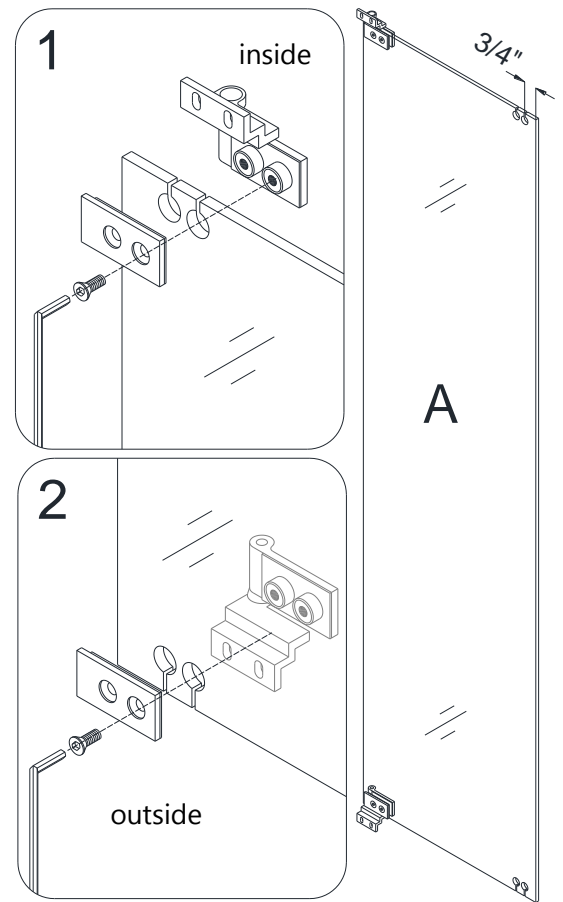
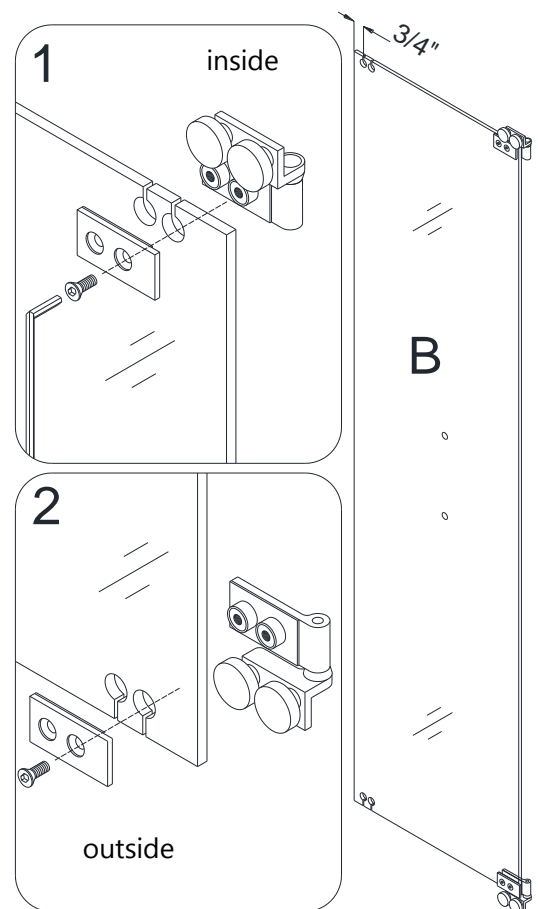
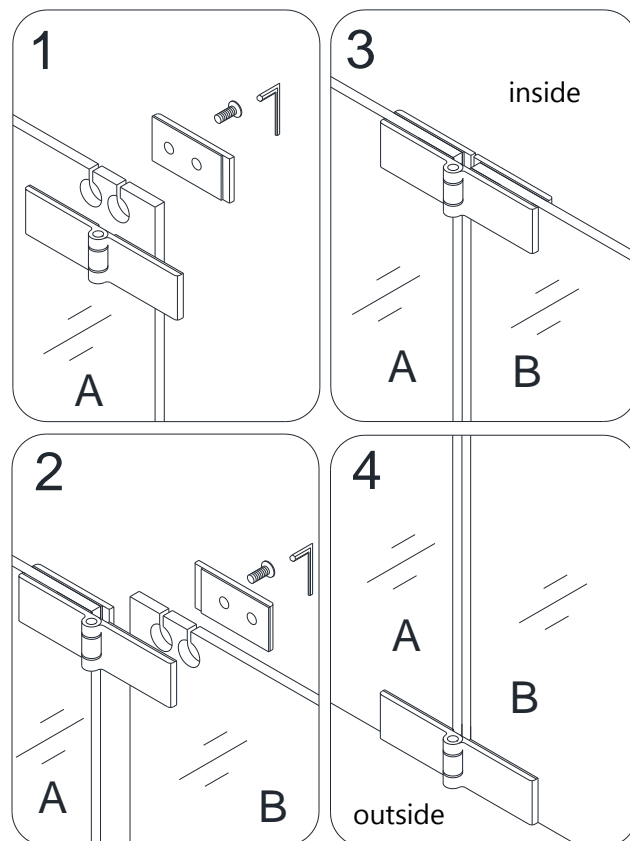
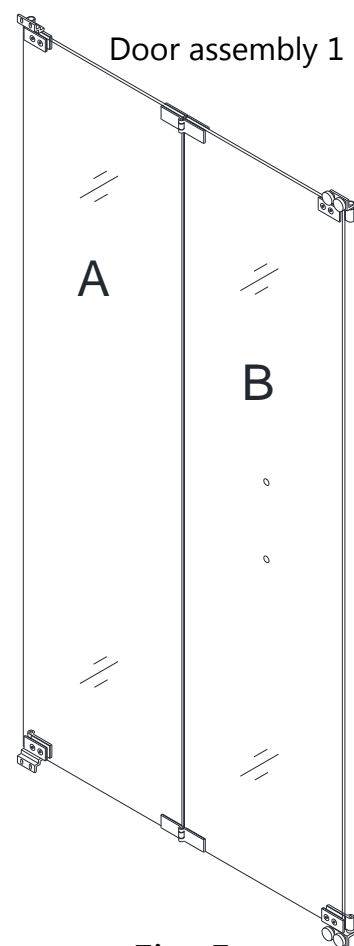

Fig. 2
Fig. 3
Fig. 4
Fig. 5
See Fig. 2 and Fig. 5 for details.
See Fig. 3 and Fig. 5 for details.
See Fig. 4 and Fig. 5 for details.
10. Slide the pre-installed **Door assembly 1** (as shown in Fig. 5) into the channel of the **Guide rails (#03)** from the right side.